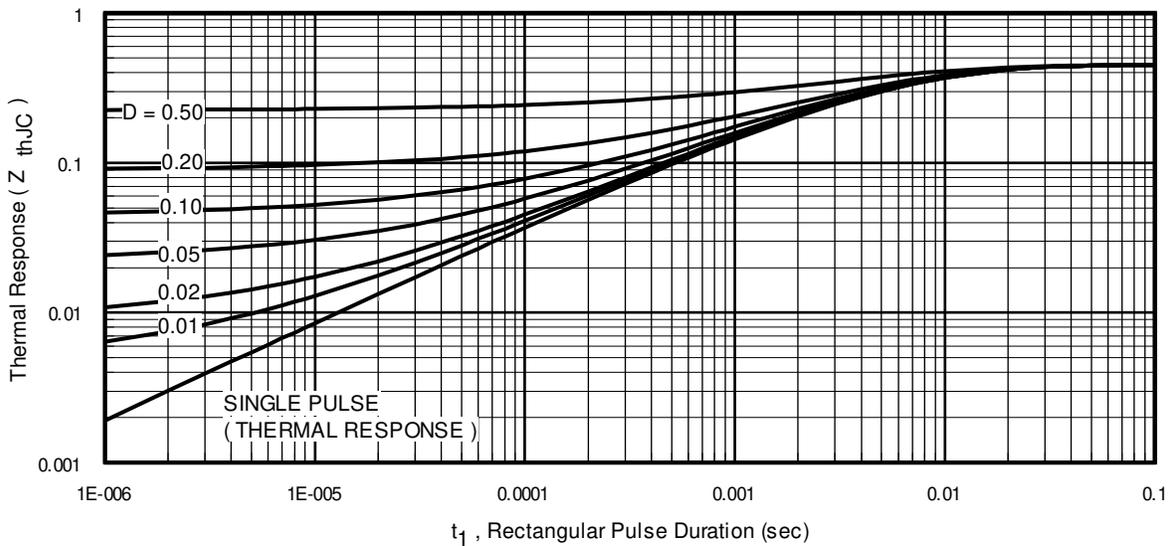
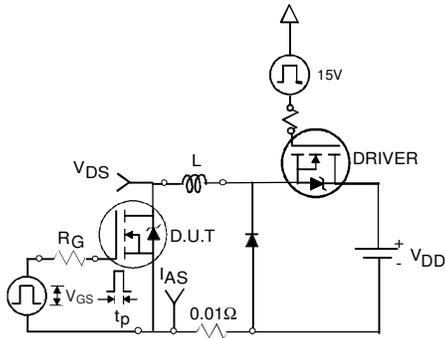

Fig 11. Maximum Effective Transient Thermal Impedance, Junction-to-Case
Fig 12a. Unclamped Inductive Test Circuit
- ① Repetitive rating; pulse width limited by max. junction temperature. (See fig. 11).
- ② Limited by T_{Jmax} , starting $T_J = 25^\circ\text{C}$, $L=0.24\text{mH}$, $R_G = 25\Omega$, $I_{AS} = 75\text{A}$, $V_{GS} = 10\text{V}$. Part not recommended for use above this value.
- ③ $I_{SD} \leq 75\text{A}$, $di/dt \leq 220\text{A}/\mu\text{s}$, $V_{DD} \leq V_{(BR)DSS}$, $T_J \leq 175^\circ\text{C}$.
- ④ Pulse width $\leq 1.0\text{ms}$; duty cycle $\leq 2\%$.
- ⑤ $C_{oss\ eff.}$ is a fixed capacitance that gives the same charging time as C_{oss} while V_{DS} is rising from 0 to 80% V_{DSS} .
- ⑥ Limited by T_{Jmax} , see Fig.12a, 12b, 15, 16 for typical repetitive avalanche performance.
- ⑦ This value determined from sample failure population. 100% tested to this value in production.
- ⑧ This is applied to D²Pak, when mounted on 1" square PCB (FR-4 or G-10 Material). For recommended footprint and soldering techniques refer to application note #AN-994.
- ⑨ Max $R_{DS(on)}$ for D²Pak and TO-262 (SMD) devices.
3. Equation below based on circuit and waveforms shown in Figures 12a, 12b.
$Z_{thJC}(D, t_{av})$ = Transient thermal resistance, see figure 11)